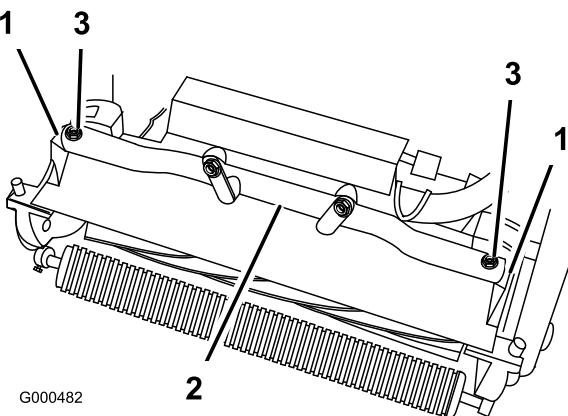

Figure 48
4. Remove (2) bolts securing cutting unit pivot arms to traction unit frame tube (Figure 48).
5. Rotate pivot arms forward (Figure 48) and rest traction unit on restrained kickstand.